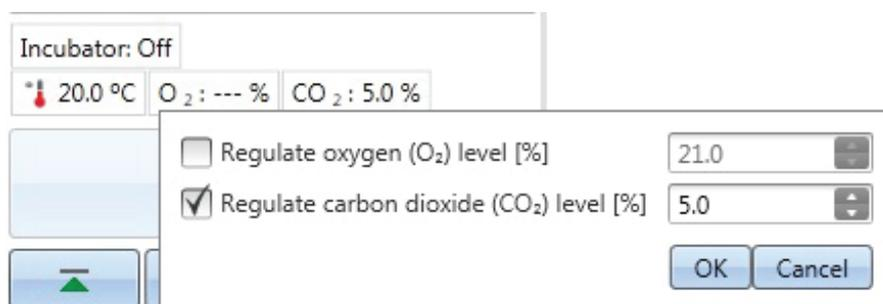

Figure 5–44 The gas atmosphere pop-up window
- a. Click the gas atmosphere icon above the **Start** button to open the pop-up window (Figure 5–44).